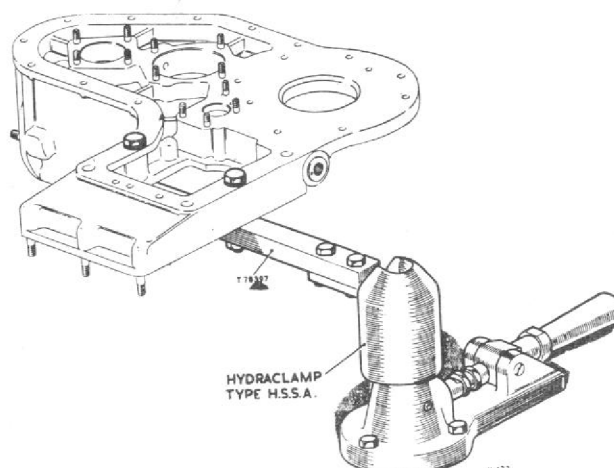

Fig. 16. Using hydraclamp to hold the wheelcase casting
- (2) Invert the wheelcase so that the air-intake joint is uppermost.
- (3) Using two slave set-screws, secure adapter T78397 to the hydraclamp.
- (4) Using two slave bolts and nuts, secure the wheelcase to the adapter (fig. 16).
- (5) Blow through all the oil-ways in the wheelcase with a compressed air jet, then using oil pressure testing trolley T78458, carry out an oil flow check.